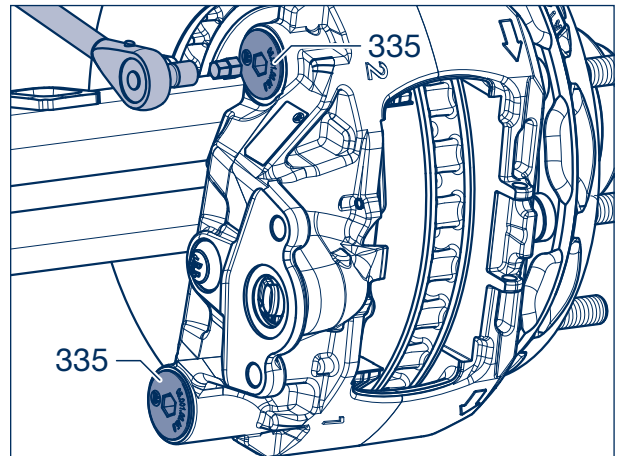

Figure 1
- [6] The sealing plugs (arrows) must be removed from the bellows (354) if replacement brake calipers are to be used.
- [7] Unscrew the sealing caps (335, see figure 1).